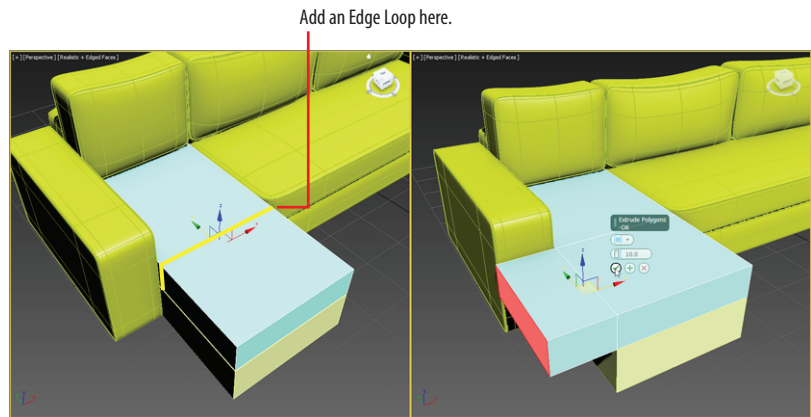

FIGURE 4.12 Use SwiftLoop to add an edge loop on the chaise cushion box (left). Extrude the new polygon that was created from adding the new loop (right).
2. In the Edit panel, select SwiftLoop and place a new edge loop on the box, as shown in Figure 4.12 (left). Right-click to release the SwiftLoop tool.
4. In the Polygons panel, select Extrude Settings, set the height to 10.0, and click OK, as shown in Figure 4.12 (right).